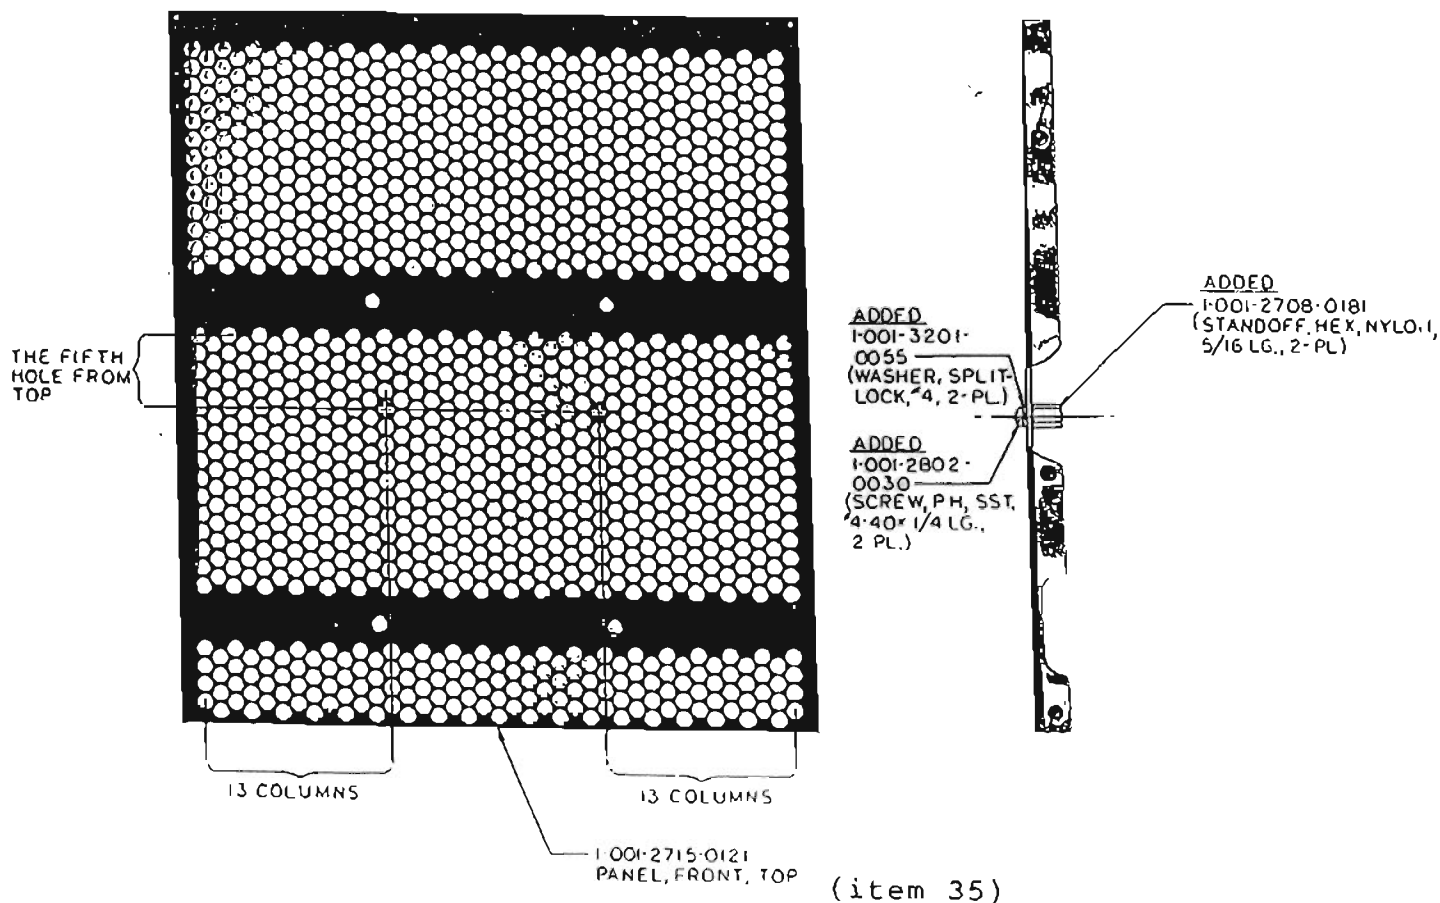

FIGURE 2
4. Using figure 2, locate position for standoff installation.
5. Insert screw (p/n 1-001-2802-0030) through washer (p/n 1-001-3201-0055), then through appropriate hole in top cover as shown in figure 2.
6. Carefully thread standoff (p/n 1-001-2708-0181) on to screw from bottom side of cover as shown in figure 2.